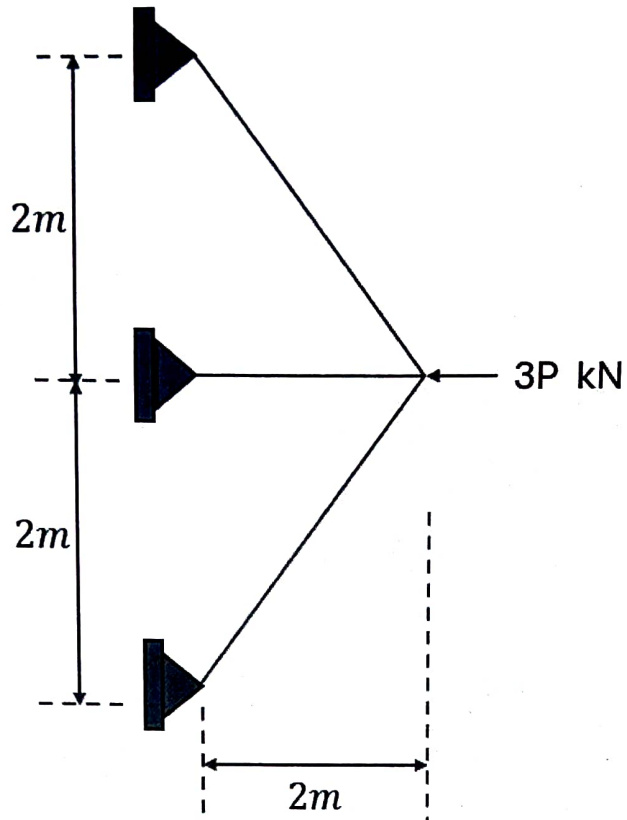

Figure 2
- Q.2. Analyze the structure shown in the Figure 2 using FEA considering the advantage of symmetry. Assume all the joints to be pin joints. Determine the reactions at the supports. Assume the area as ' A ' (m^2) and the Young's modulus as ' E ' (kN/m^2) for all the members. [10 Marks]